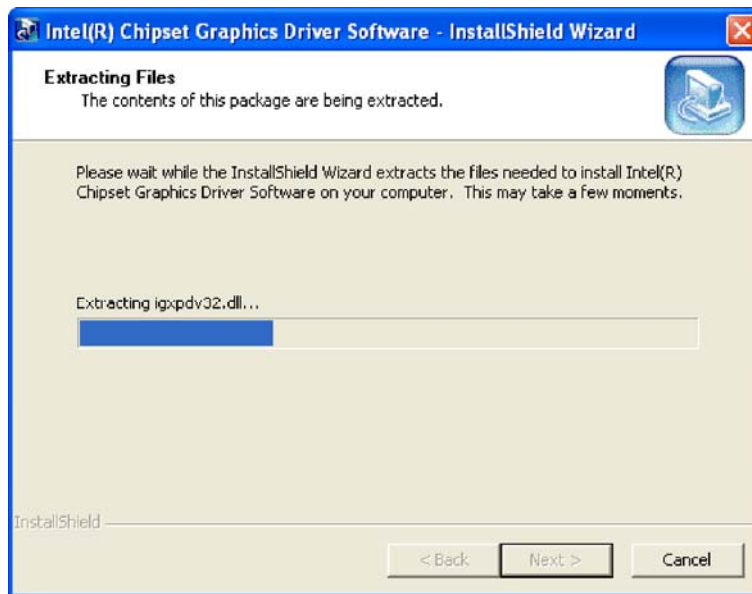

Figure 7-10: VGA Driver Setup Files Extracted
Step 5: The installation files are extracted. See **Figure 7-10**.